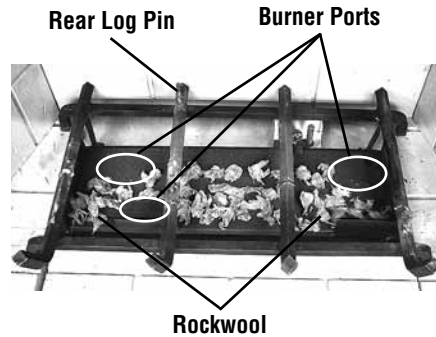

Figure 10
Step 1. Remove the rockwool from the pack-aging and tear into nickel size pieces. Spread the rockwool evenly on top of the burner. Do not use more than is necessary. The rockwool should not cover the burner ports, as shown in **Figure 10**.